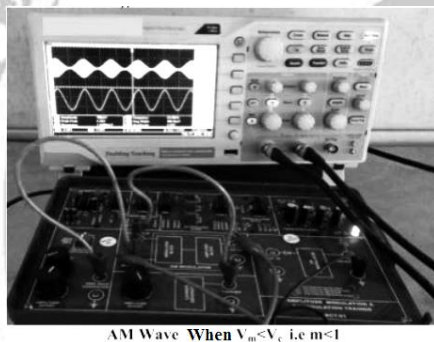

Fig 4.5: When $m < 1$
- 1 For $m < 1$ as shown in fig 4.5 ,switch on the trainer kit and check the output of the carrier generator on an oscilloscope.